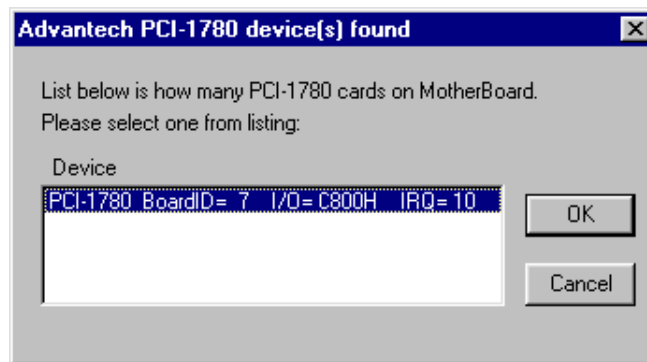

Fig. 2-5 The “Device(s) Found” dialog box
Step 3: Scroll down the *Supported Devices* box to find the device that you wish to install, then click the **Add...** button to evoke the *Existing unconfigured PCI-1780* dialog box such as one shown in Fig. 2-5. The *Existing unconfigured PCI-1780* dialog box lists all the installed devices on your system. Select the device you want to configure from the list box and press the **OK** button.